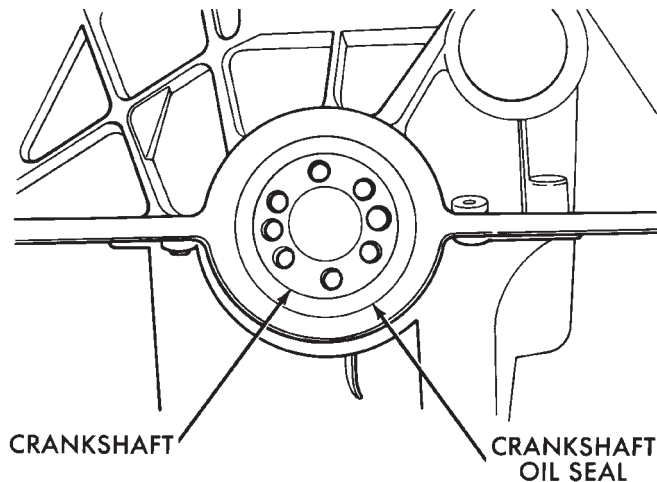

Fig. 8 Replacement of Rear Crankshaft Oil Seal
- (1) Remove the flywheel or converter drive plate. Discard the old bolts.
- (2) Pry out the seal from around the crankshaft flange (Fig. 8).